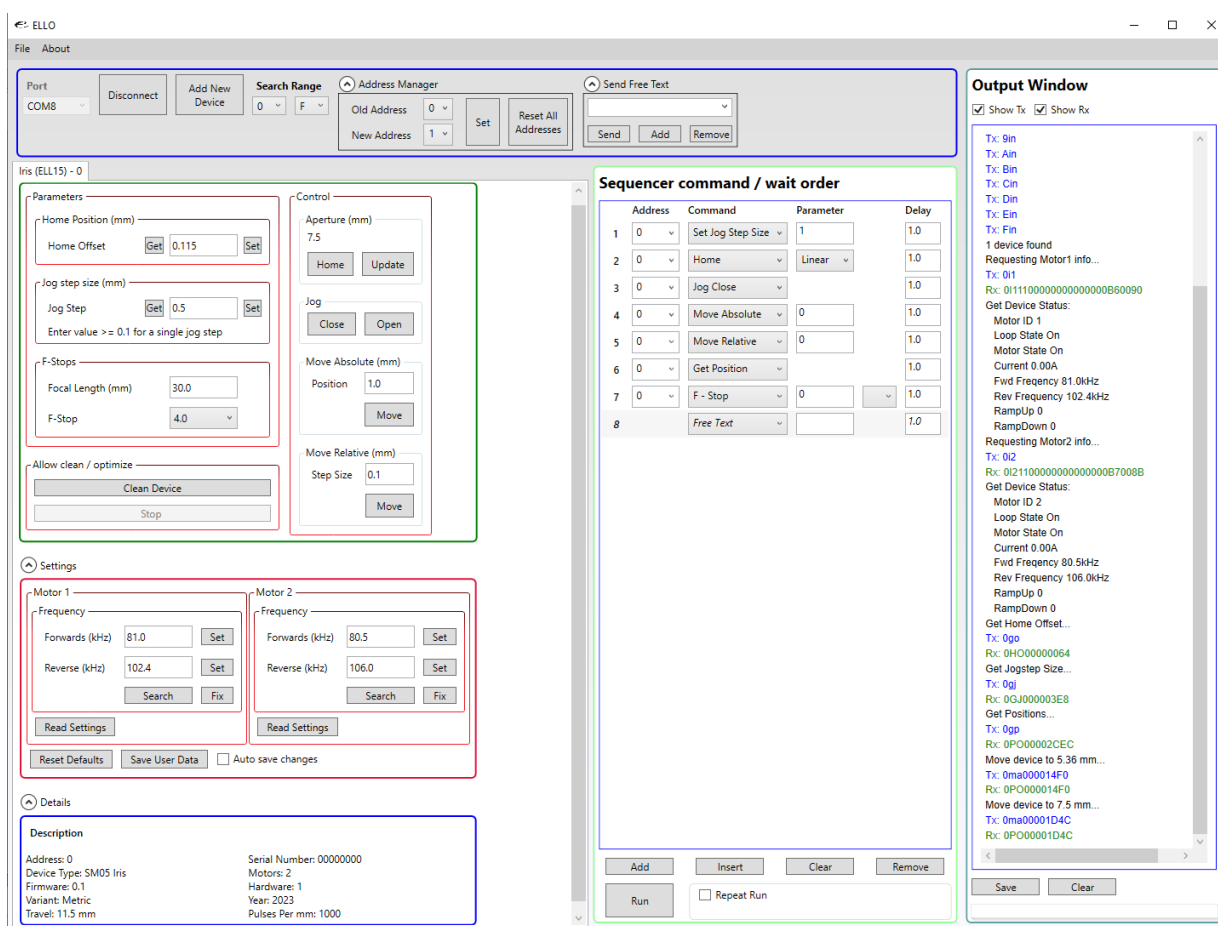

Figure 7 *Output Window*
2. Change the address of the first device in the Address Manager (refer to Figure 7) and press “Set”.